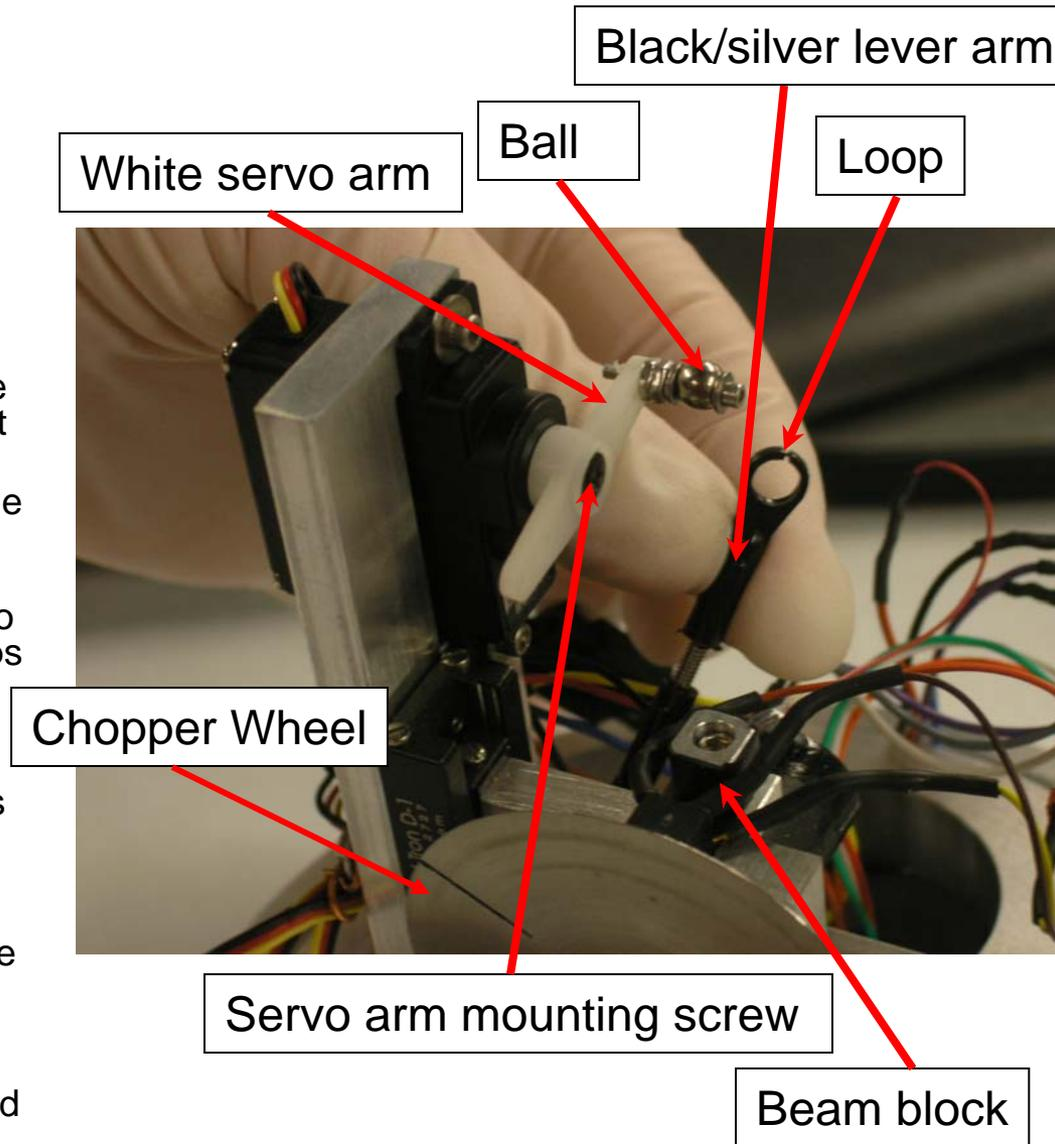

Figure 1. Chopper hardware.
- 17) Check that particle beam position (measured with calipers) is over the slit and misses the beam block (see Figures 1, 4 and 5).
Note that particle beam position is on slit, but passes beam block (see Figure 1).